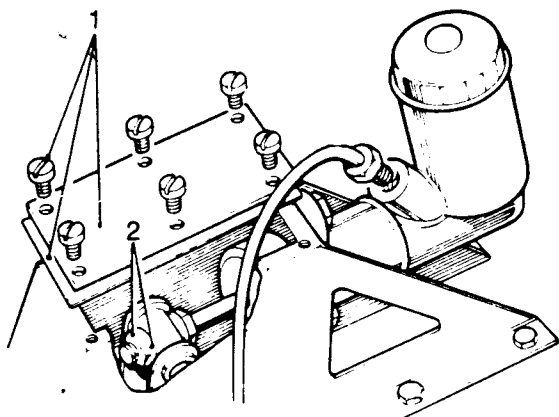

Fig H3.14
- (5) Refer to Fig H3.14. Push the master cylinder push rod through the trunnion and fit the nut (2) and washer.